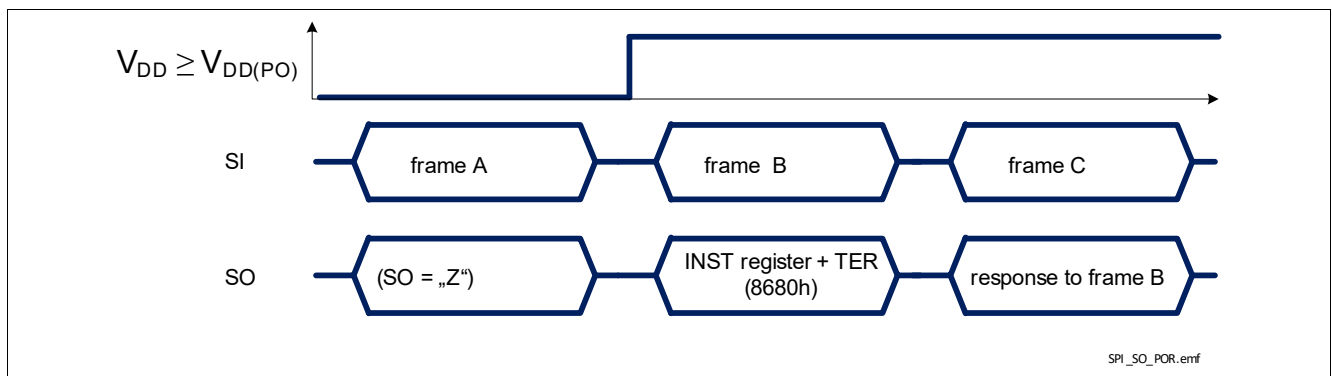

Figure 31 TLE75008-ESD response after coming out of Power-On reset at  $V_{DD}$
- when TLE75008-ESD logic supply comes out of Power-On reset condition or after a Software Reset, as shown in **Figure 31**